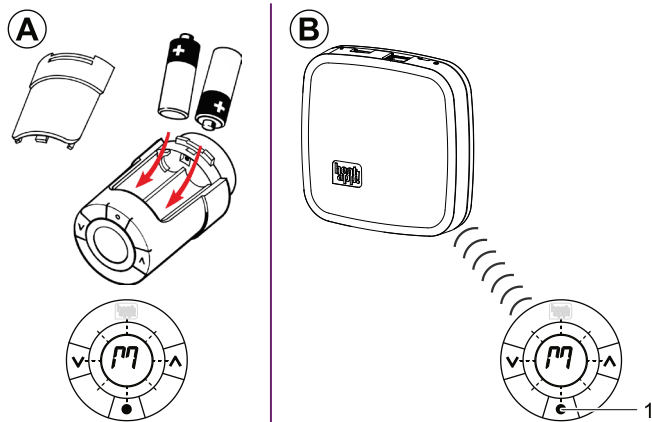

Fig. 10: registering heatapp! drive
1. Unpack a **heatapp! drive** and insert the AA batteries in the battery compartment (Fig. 10, **A**). Ensure you connect the positive and negative terminals correctly!
3. The display on the **heatapp! drive** displays a flashing "M". Now press the learn key (Fig. 10, **B**, item 1) in the middle below the display. As soon as the **heatapp! gateway** recognises the **heatapp! drive**, you are requested to allocate the actuator to a room that was created in the **heatapp! base** set-up and enter a name for this actuator (e.g. "*Window radiator*") .
- Press the learn key (Fig. 10, **B**, item. 1) for 3 seconds until the display goes out and the **heatapp! drive** audibly attaches to the valve.